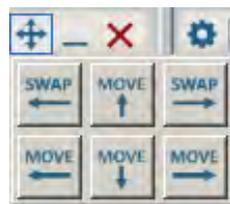

Figure H.20: Move/Swap Softkey
(Move) softkey is used for chart moving (up/down) and swapping (left/right) (see Figure H.20).
-  (Move) softkey is used for table moving (up/down) and swapping (left/right) (see figure H.20);
(Move) softkey is used for table moving (up/down) and swapping (left/right) (see figure H.20);